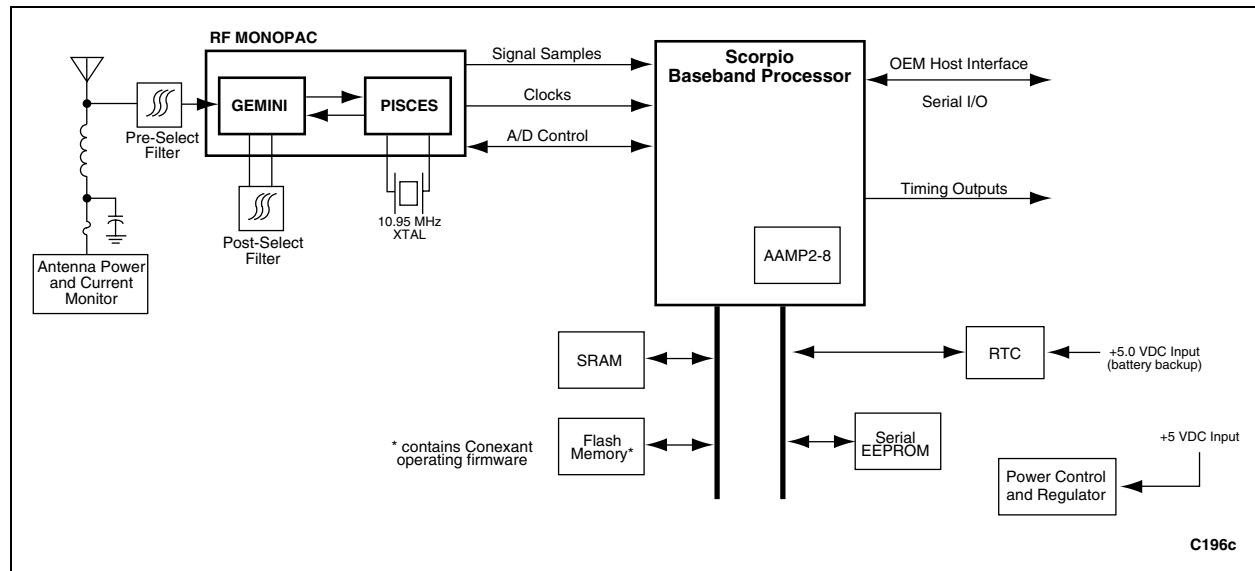

Figure 4. Jupiter-T Receiver Architecture
Receiver Architecture. The functional architecture of the Jupiter-T receiver is shown in Figure 4. The receiver design is based on the Conexant Zodiac chipset, the Gemini/Pisces MonoPac and the Scorpio Baseband Processor, which contains the required GPS functionality. The Gemini/Pisces MonoPac contains all the RF downconversion and amplification circuitry, and presents the In-Phase (I) and Quadrature-Phase (Q) Intermediate Frequency (IF) sampled data to the Scorpio device. The Scorpio contains an integral microprocessor and all the required GPS-specific signal processing hardware. Memory and other external supporting components configure the receiver into a complete timing system.